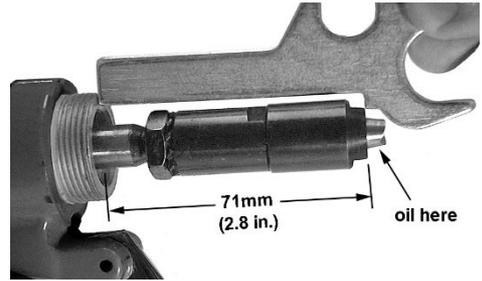

Figure 4
6. Use gauge wrench to check that length of jaw assembly is correct (Figure 4). This length ensures proper spring tension. Rotate jaw assembly as needed until it fits the span of the gauge as shown.